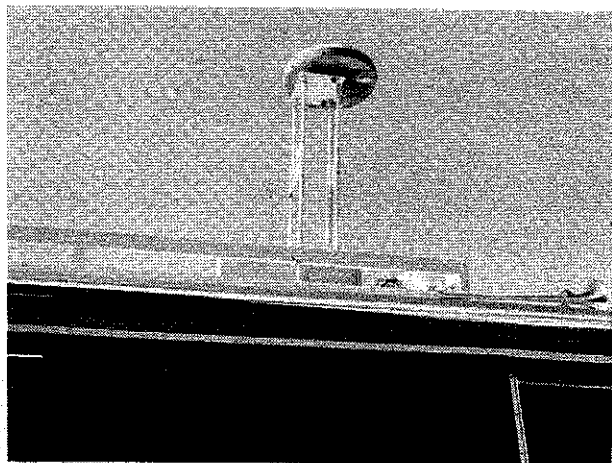
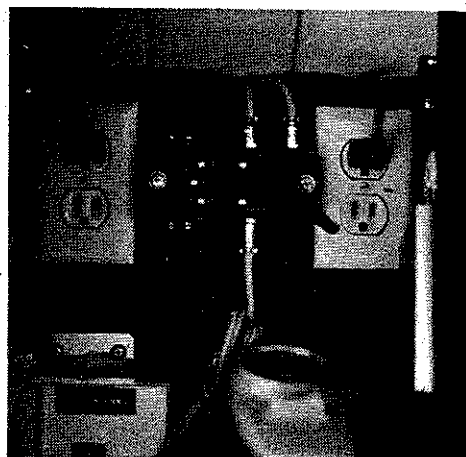

Figure 2-18. Extendable TV Antenna Radome
Figure 2-19. Antenna Control Panel
- Roof-mounted TV antenna, figure 2-18, and remote control panel, figure 2-19, located in the overhead cabinet above and to the rear of the copilot.